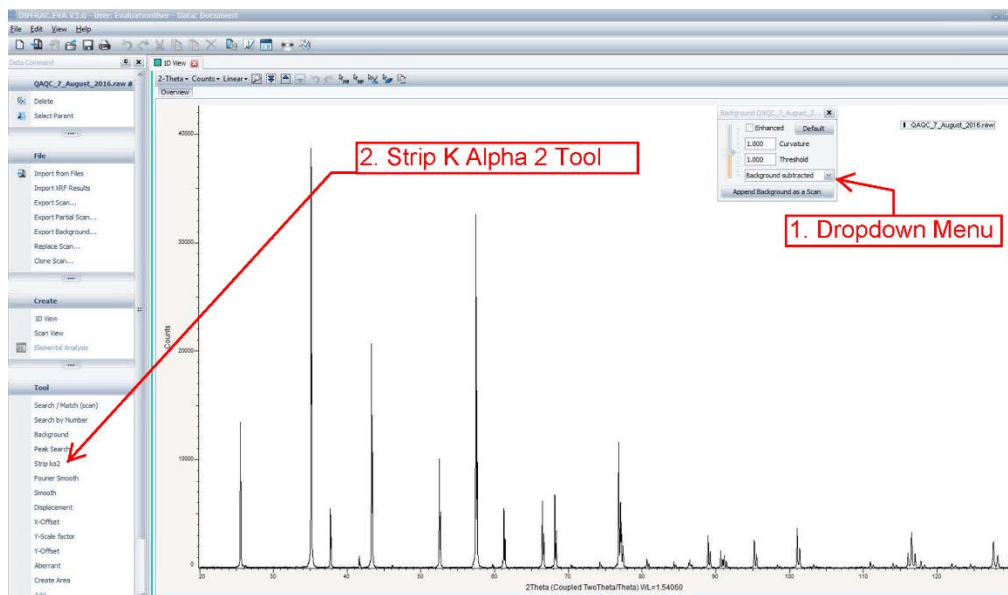

Figure 26: EVA diffractogram with the background subtracted. (1) Dropdown Menu to Append Scan (2) Strip $K\alpha_2$ Tool
3. Strip $K\alpha_2$ and Append (Figure 26).